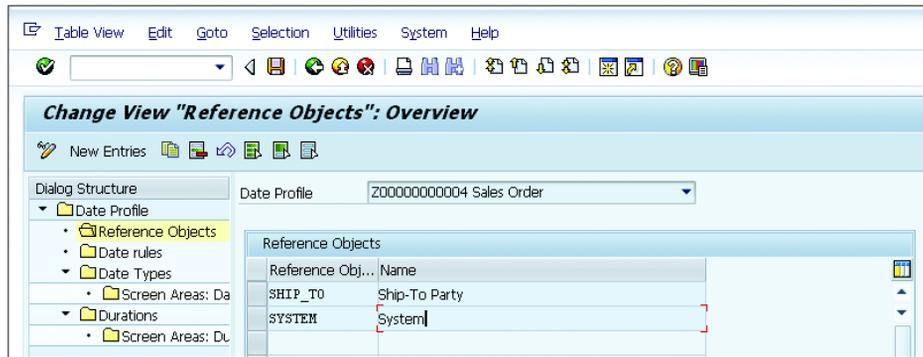

Figure 4.70 Date Profile Reference Objects
2. Navigate to the REFERENCE OBJECTS folder, and click the NEW ENTRIES button to add the reference objects SHIP-TO PARTY and SYSTEM to the date profile, as shown in Figure 4.70.